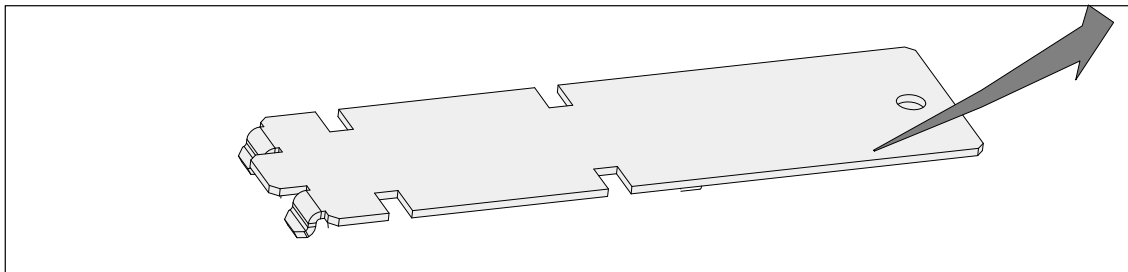

Figure 8-2 Battery Cover
2.	Lift the cover up and to the right (see Figure 8-2). Make sure you raise the cover only as far as the battery connections allow.